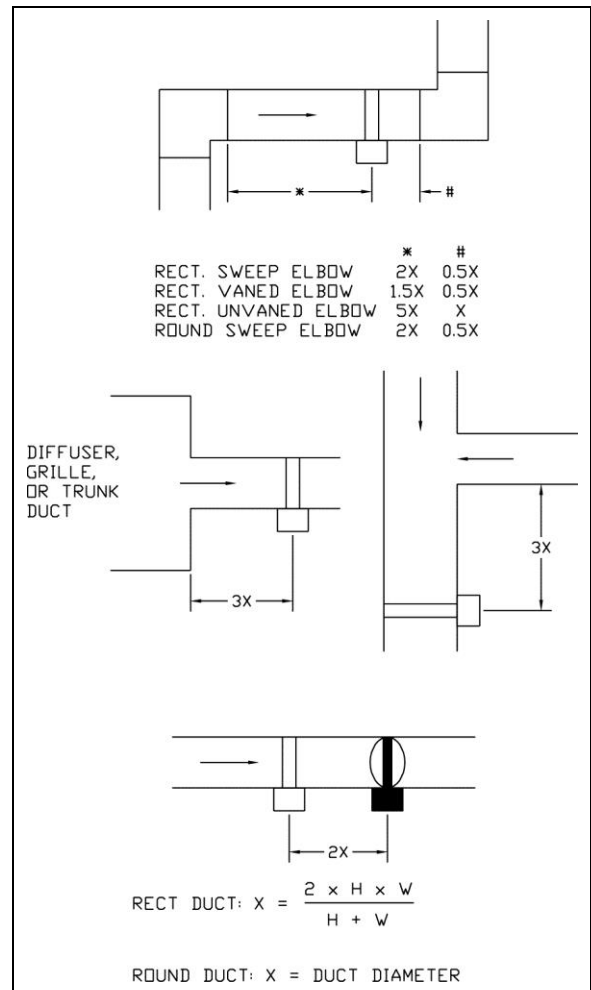

Figure 9: Flow Station Mounting Location
**WARNING:** Figure 9 gives the minimum straight length duct diameters required for the flow station to operate correctly.
- Verify that the jumpers on the pressure transducer are installed correctly, per Figure 9. The default pressure transducer output range is 0–0.5 in H2O.